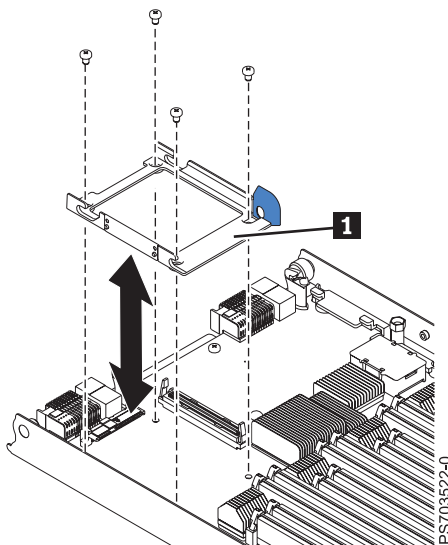

Figure 44. Removing the disk drive tray
6. Remove the four screws that secure the drive tray (**1** in Figure 44 on page 260) to the system board and remove the drive tray.